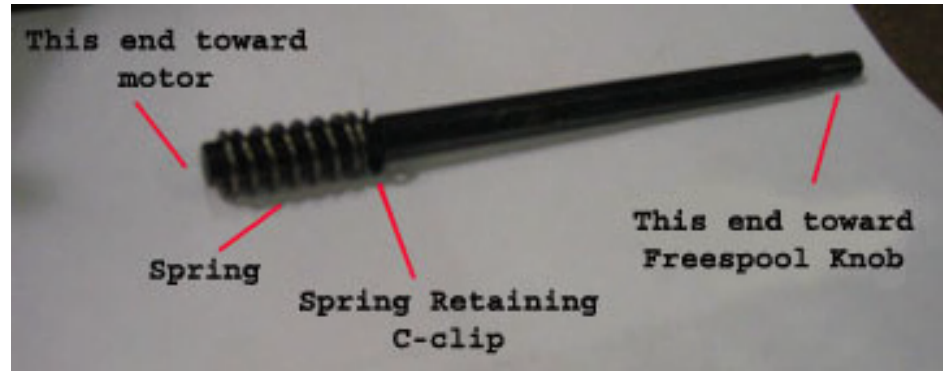

Fig. 4
8. Then put the Clutch Return Spring on the new Drive Shaft by placing it on the hexagonal end near the spring retaining C-clip. [See Fig. 4]